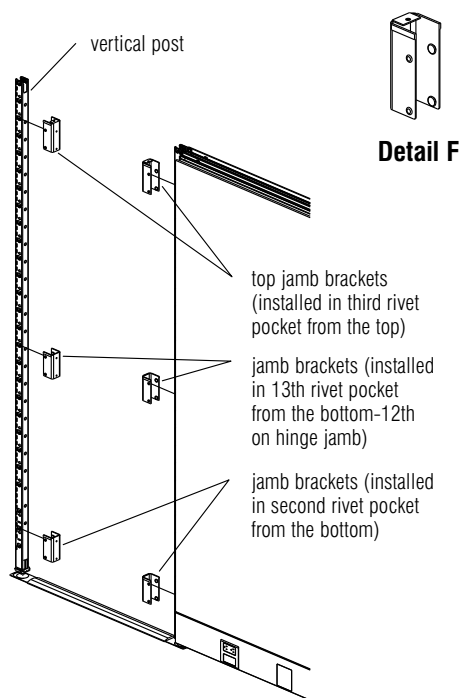

Figure 18
3. Install three (3) jamb brackets to each vertical post using a dead blow hammer at the locations indicated in **Figure 18.** (Remove temporary horizontal when required.) Be sure the rivets on the brackets are securely seated in each embossed pocket.